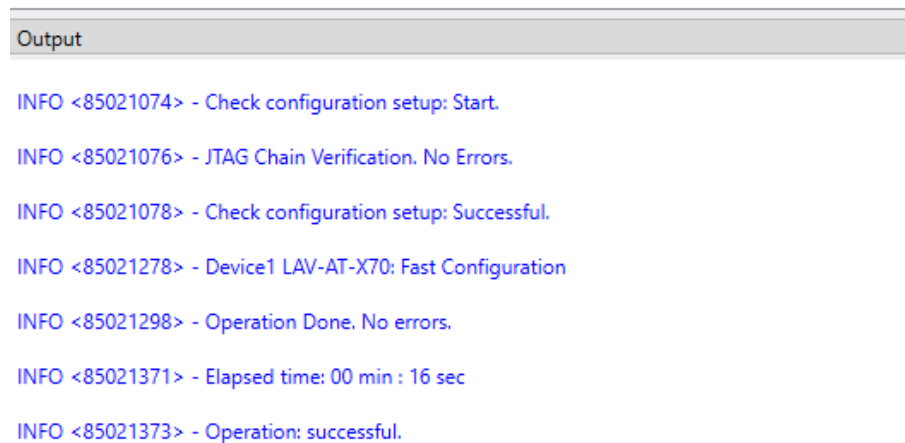

Figure 6.22. Radiant Programmer Console Output after Bitstream is Programmed
20. Click **OK** and click the **Program Device** Icon or go to the menu item, **Run > Program Device**. Wait until the operation is successful as shown in Figure 6.22.